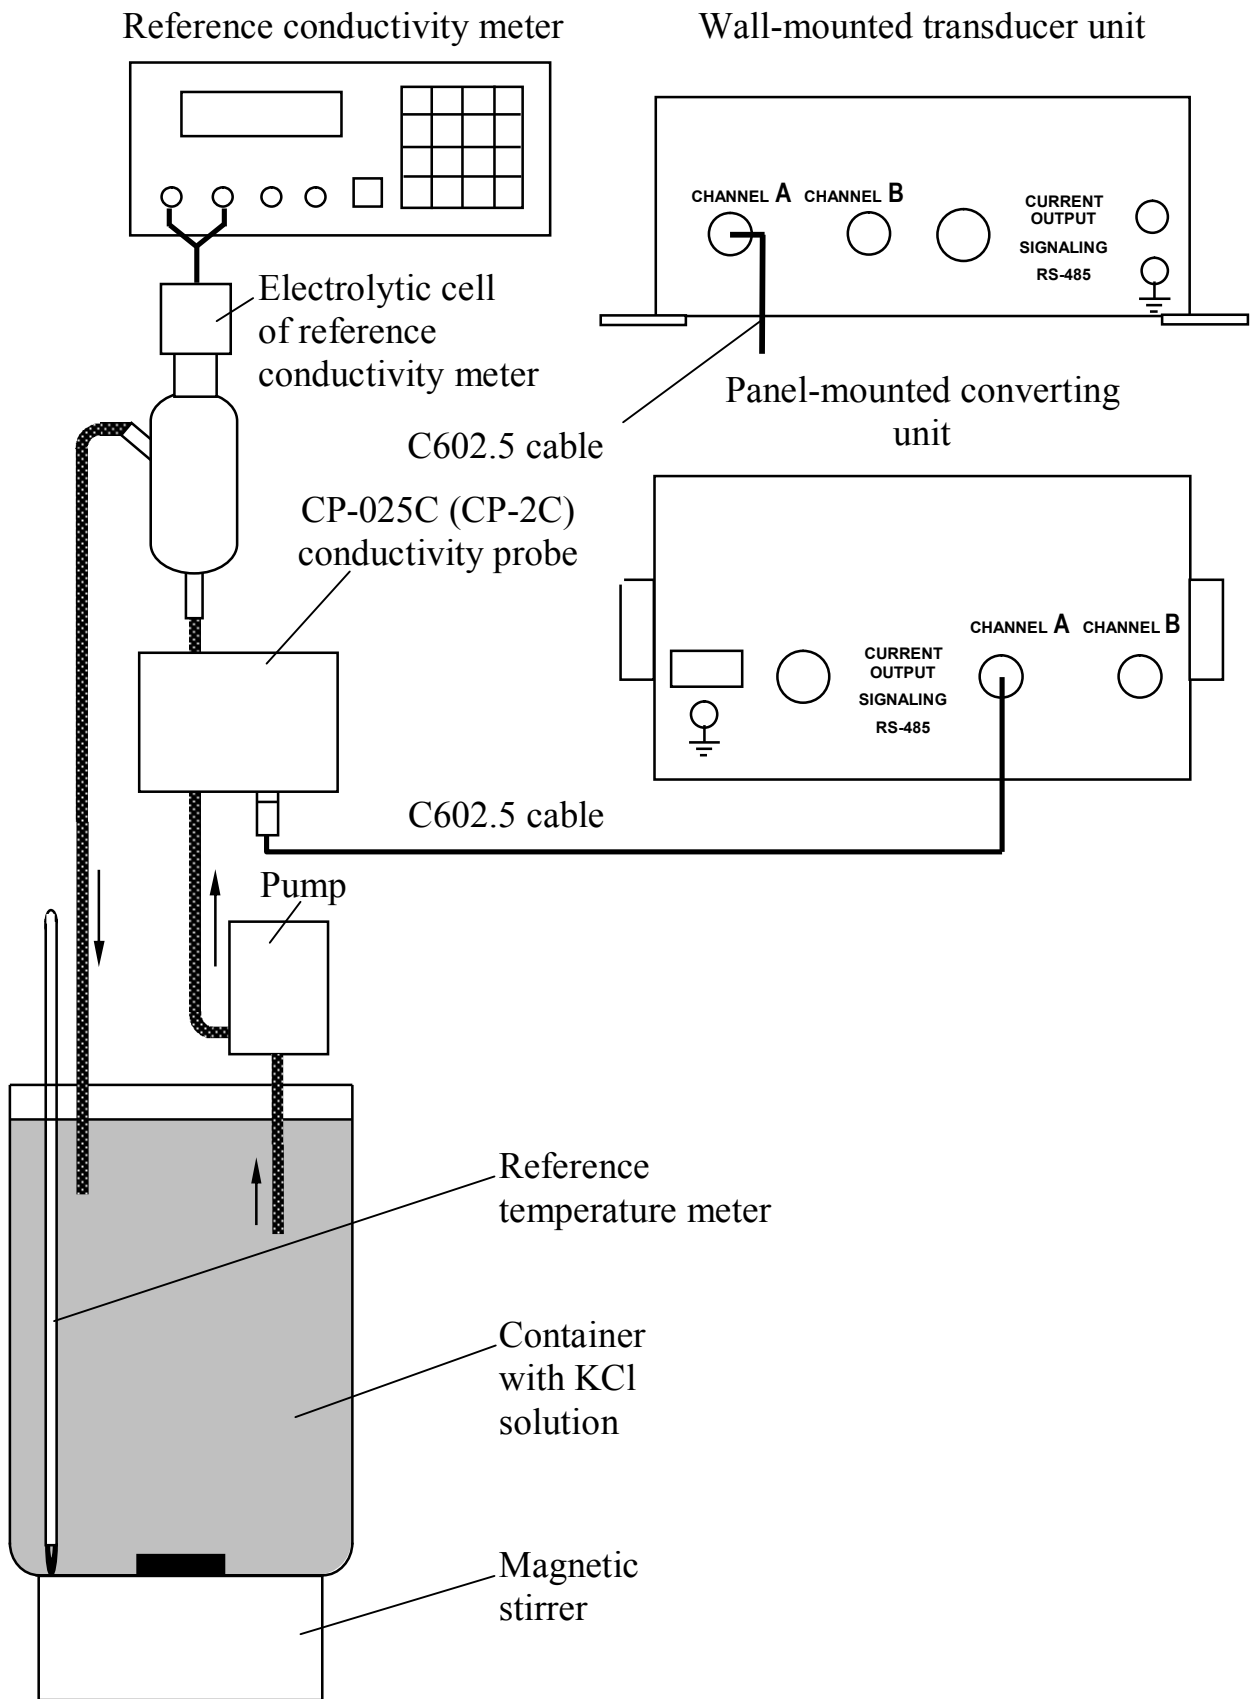
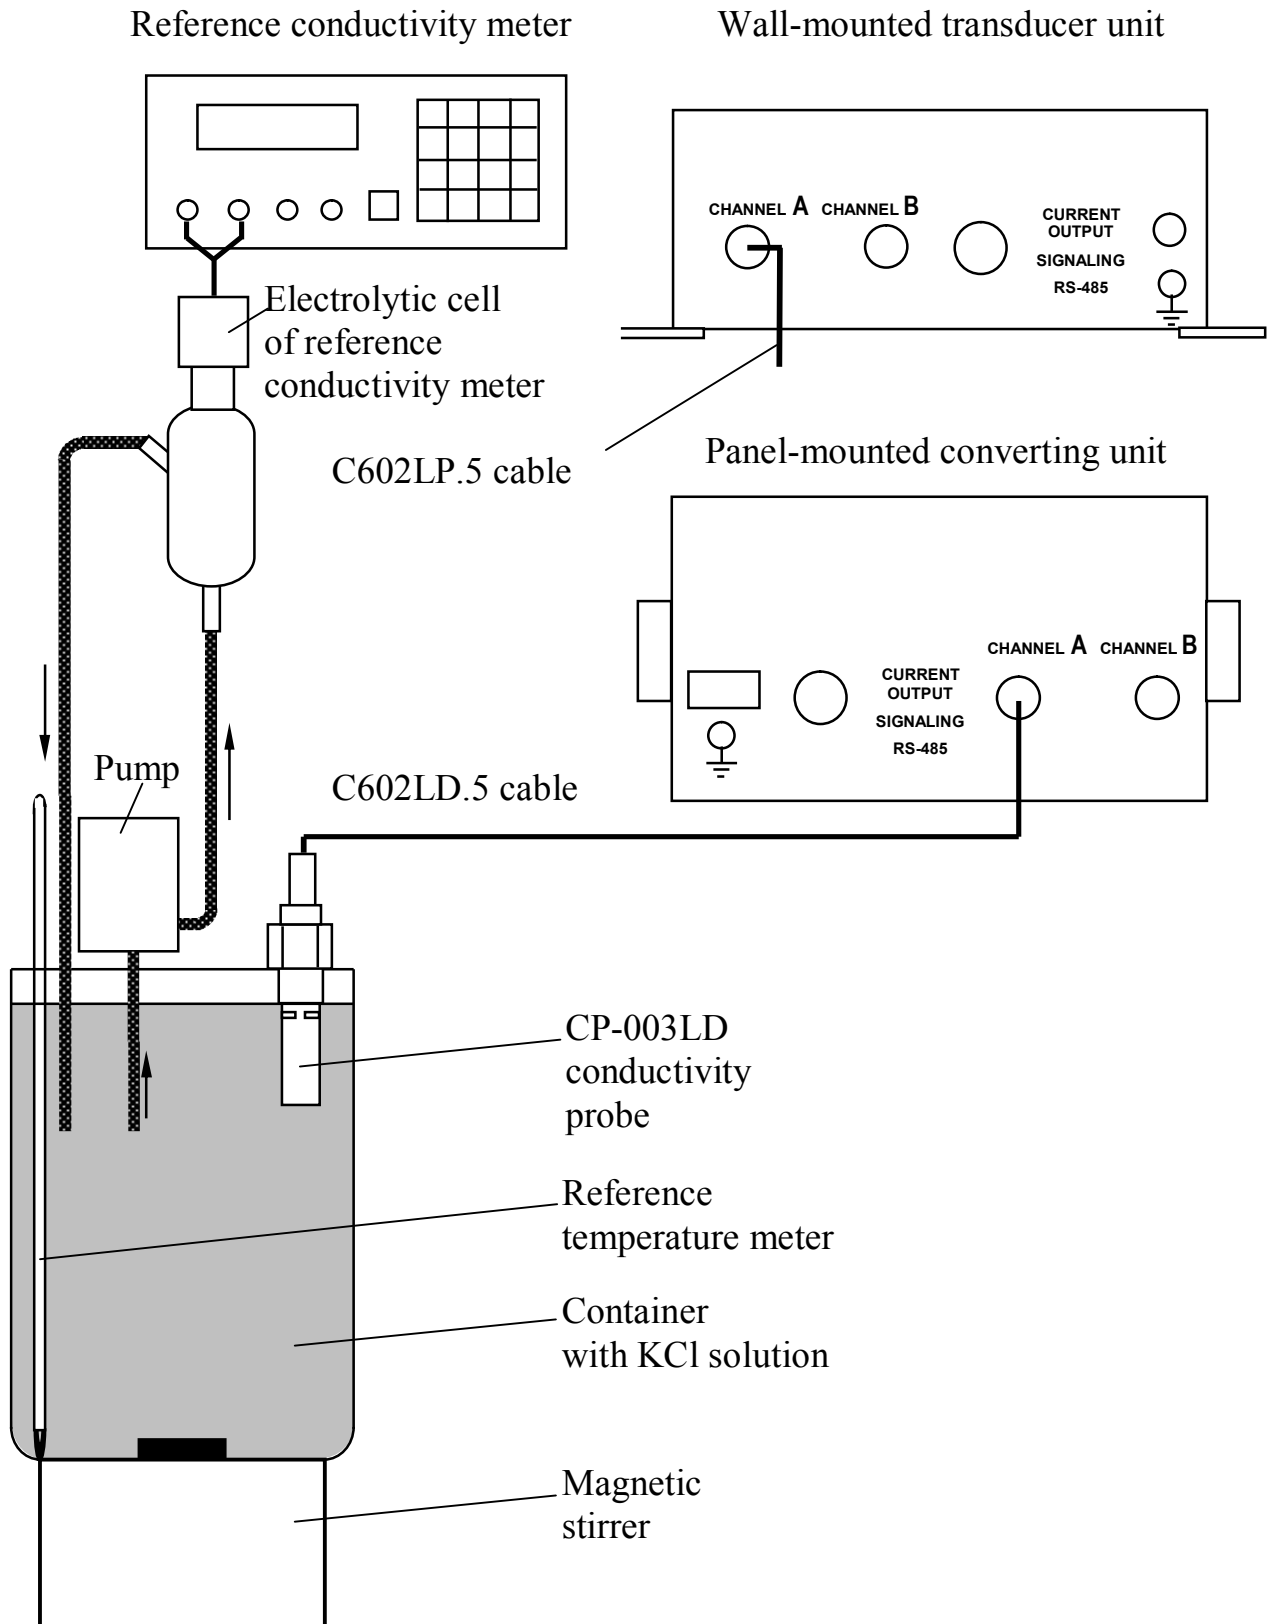

Figure 3.2 – Set-up for checking the CP-025C or CP-2C probe constant
Figure 3.3 – Set-up for checking the CP-003LD probe constant
3.3.3 To check the probe constant, establish a set-up as shown in Fig.3.2 for checking the CP-025C or CP-2C conductivity probe and as shown in Fig.3.3 for checking the CP-003LD conductivity probe.
- install the CP-025C or CP-2C conductivity probe as shown in Fig.3.2 with a vertical deviation not exceeding 15° so as to ensure that the KCl solution flows via the CP-025C or CP-2C probe from the bottom upwards; dip the CP-003LD into the container with KCl solution as shown in Fig.3.3;